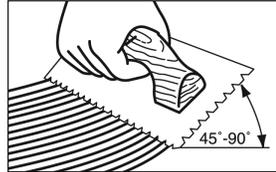

Figure 11
- Hold trowel at a 45° angle (Figure 11) firmly against the subfloor to obtain a 50-60 ft.2 (4-5.5 m2) per gallon spread rate (30-35 ft.2 per gallon for Summit spread with the included Summit All-In-One trowel) or other adhesive manufacturer's trowel. The trowel will leave ridges of adhesive and very little adhesive between the ridges. This method will allow you to still see the chalk lines between the ridges and provide the recommended spread rate. For additional application instructions, follow the recommendations on the adhesive container.